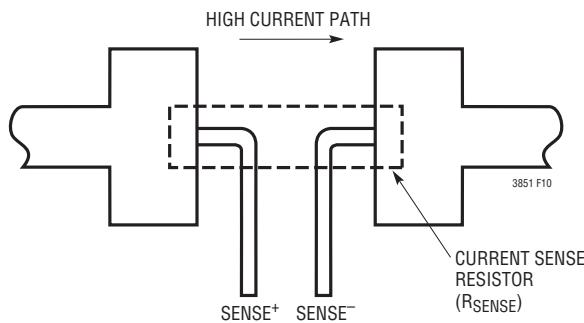

Figure 10. Kelvin Sensing R_{SENSE}
3. Are the $SENSE^-$ and $SENSE^+$ leads routed together with minimum PC trace spacing? The filter capacitor between $SENSE^+$ and $SENSE^-$ should be as close as possible to the LTC3851. Ensure accurate current sensing with Kelvin connections as shown in Figure 10. Series resistance can be added to the $SENSE$ lines to increase noise rejection and to compensate for the ESL of R_{SENSE} .